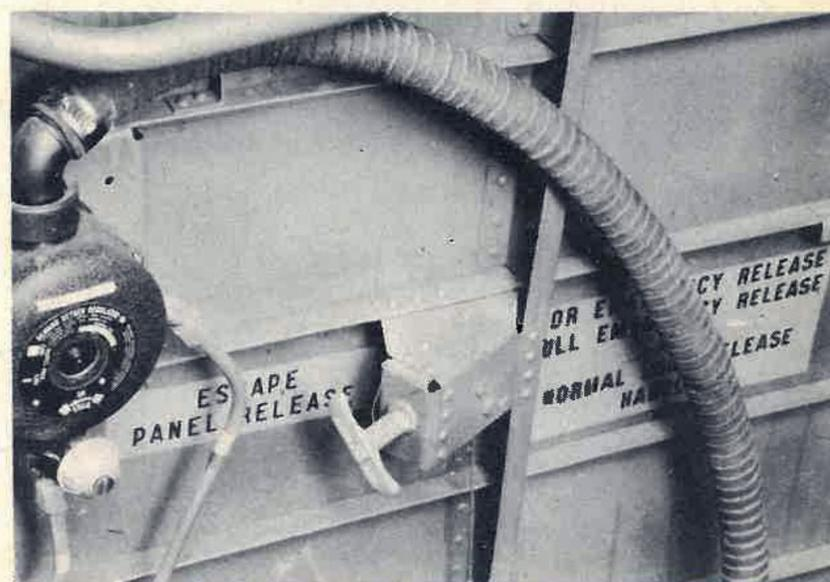

Figure 23 — Radio Operator's Emergency Release
a. RADIO OPERATOR'S EMERGENCY EXIT.—The radio operator's entrance door is released by pulling sharply on the red emergency release handle and AT THE SAME TIME pulling on the normal release. This removes the hinge pins, allowing the door to drop free to be carried away by the airstream. The emergency release handle is located on the lower left side of the radio operator's compartment. (Fig. 23.)
(1) The gunner's seat is opposite the emergency exit and gives him immediate access to it.
(2) To reach the emergency exit, the pilot should release his seat to tilt backward by pressing the adjustment lever on the back of the seat, behind his right shoulder. This permits him to move quickly aft to the emergency exit.
(3) If the gunner's armor plate is locked in position, it may be released by pressing the spring-loaded handle at the bottom center of the armor plate and sliding the bolt to the right. The armor plate is then free to swing out of the way.
(4) Both pilot and gunner should leave the airplane by sliding head first and face down over the leading edge of the inner wing.